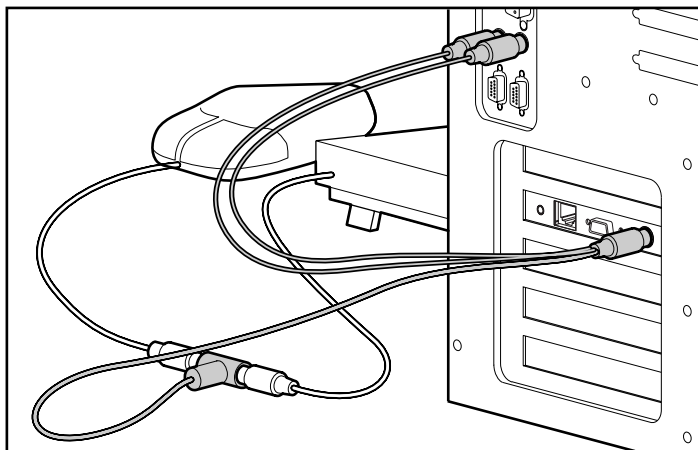

Figure 2-3: Connecting the keyboard/mouse adapter cable
2. Connect the keyboard and mouse cables to the color-coded T-shaped keyboard/mouse connector of the RILOE II keyboard/ mouse adapter cable as shown in Figure 2-3.